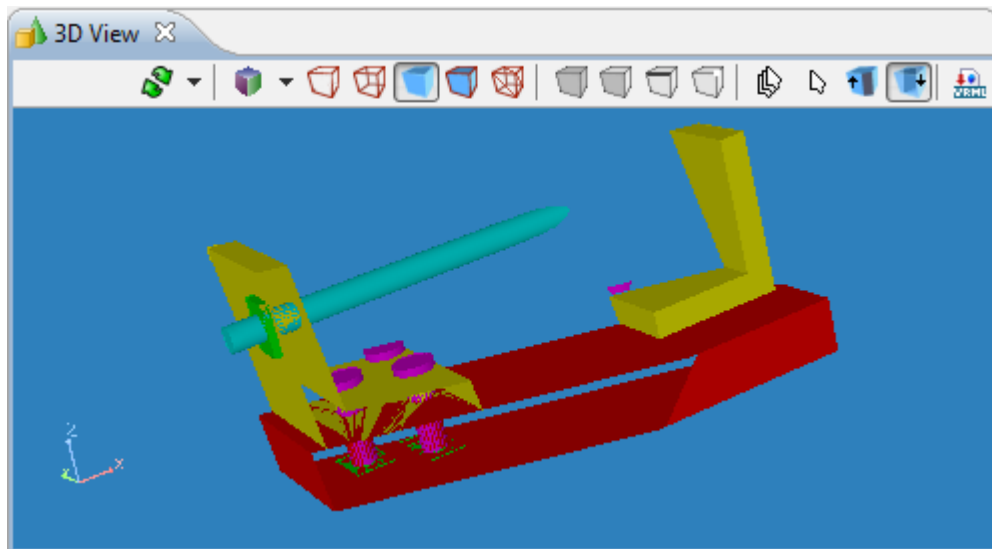

Figure 3. Clipped front and back planes
- Click and drag a mouse downwards to dive into a back clipping plane of the 3D object (see Figure 3).
- Type of underlying curve with an absolute coordinates of the Start and End points, measurement units (see Figure 3);
Figure 3. Status bar information: type of underlying curve ('Line'), entity instance identifier ('#1554'), Start point absolute coordinates ('Start=(-2,14; -0,48; 1,00)').
Note. The End point coordinates and measurement units are not visible in the Figure 3, because the window is minimized